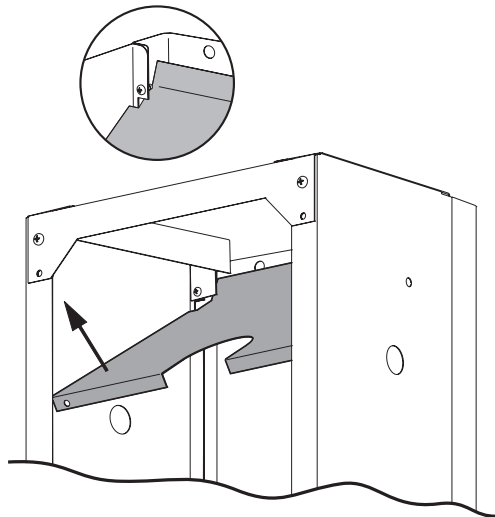

Figure 6
6. Attach the Heat Shield to the Left and Right side assemblies with two 1/4-20 x 3/4 Phillips screws and nuts. Make sure shield is resting on the cutout provided in the side panels before tightening the screws and nuts. See Figures 6 and 7.